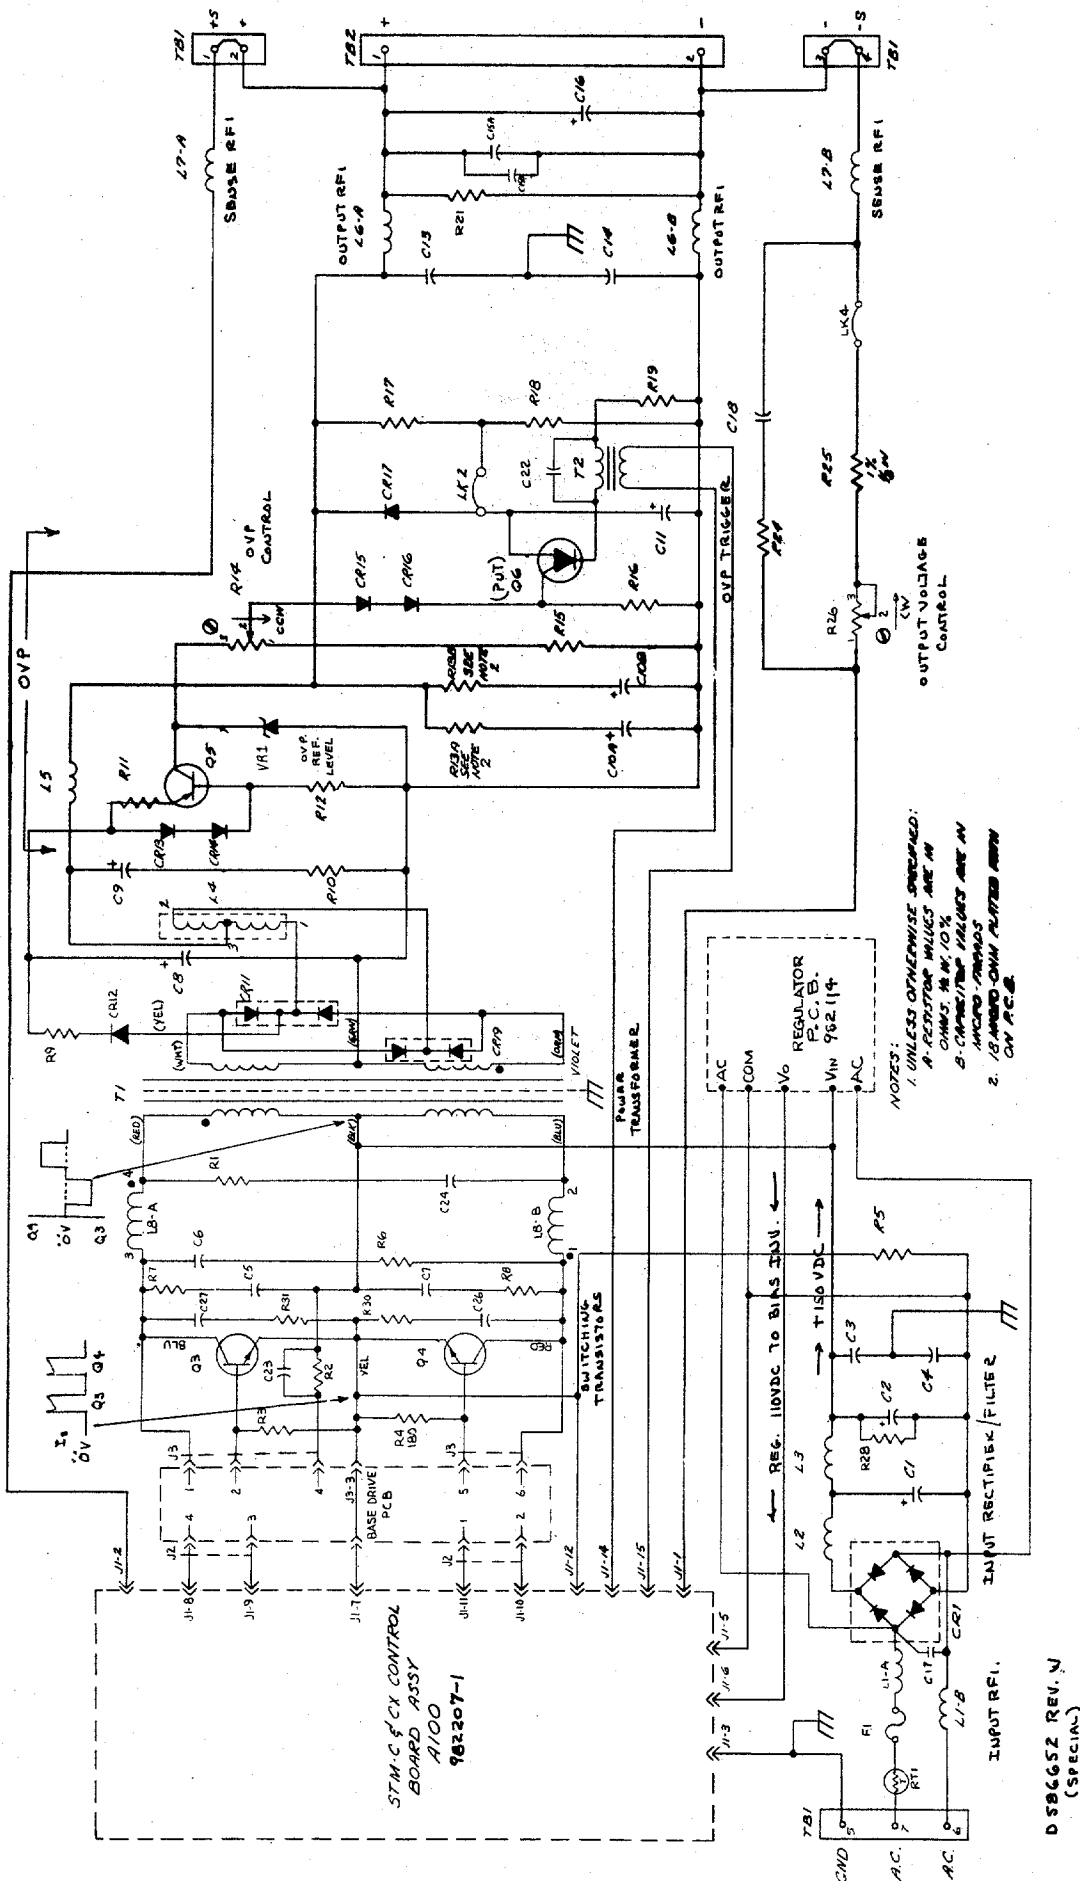

FIGURE 5-3
2. For units with 15-volts (or greater) output; Q6, CR18, or an associated component, (Figure 5-3).